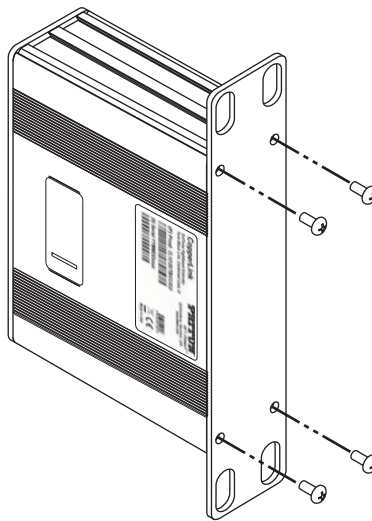

Figure 11. Installing the mounting plate
2. Install the mounting plate onto the CL1200E enclosure using the screws removed in step 1 as shown in figure 11.